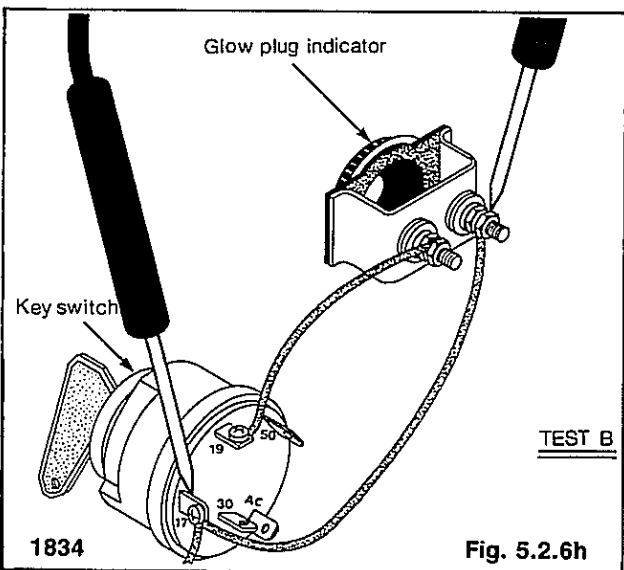

Fig. 5.2.6h
- (B) Connect one ohmmeter lead to the terminal marked 17 on the key switch (Fig. 5.2.6h). Connect the other ohmmeter lead to terminal on the glow plug indicator.